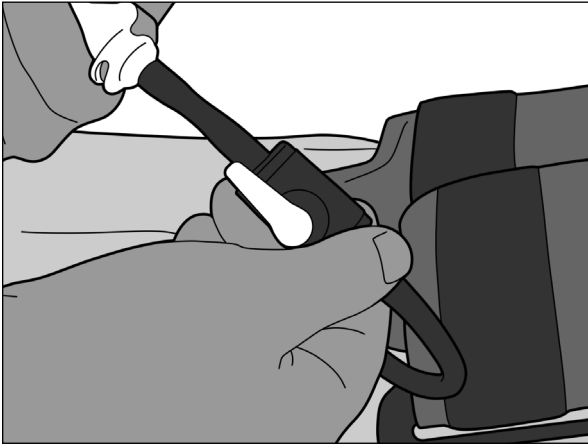

Fig. 12
5. After 2 minutes, open the valve by turning valve in-line with tubing (Fig. 12).